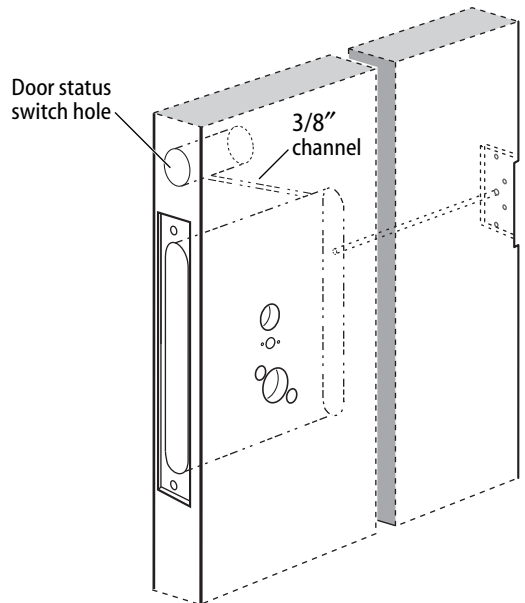

Figure 5 Preparing for the door status switch
- 1 Locate the centerpoint for the door status switch 2.5" above the top of the faceplate mortise on the edge of the door (as shown in Figure 5).
- 3 Position the drill so the tip of the bit is approximately 1" into the hole and the bit is close to the top edge of the hole. Then drill a 3/8" channel at approximately a 35° angle from the door status switch hole into the mortise cavity (as shown in Figure 5).